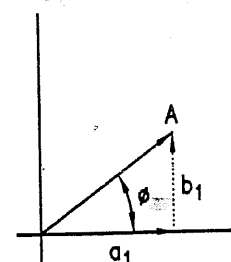

FIG. 2.22 : REPRESENTATION OF A VECTOR IN TERMS OF COMPONENTS
- In Fig. 2.22 vector A is shown. Horizontal component of A is a_1 and vertical component is b_1 .